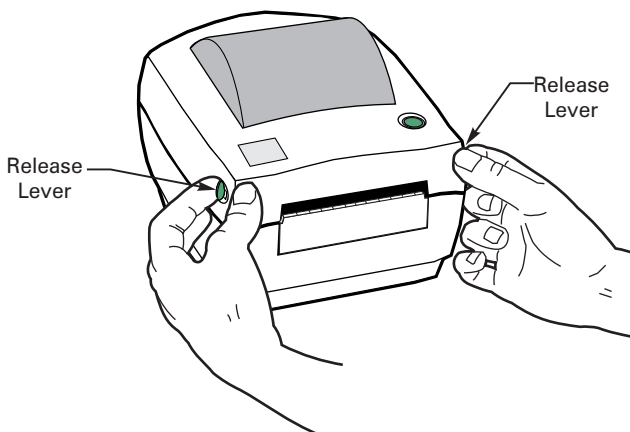

Figure 3
1. Unlatch the top cover by pulling the two green release levers toward you (refer to Figure 3). Then, lift the top cover to expose the media compartment.